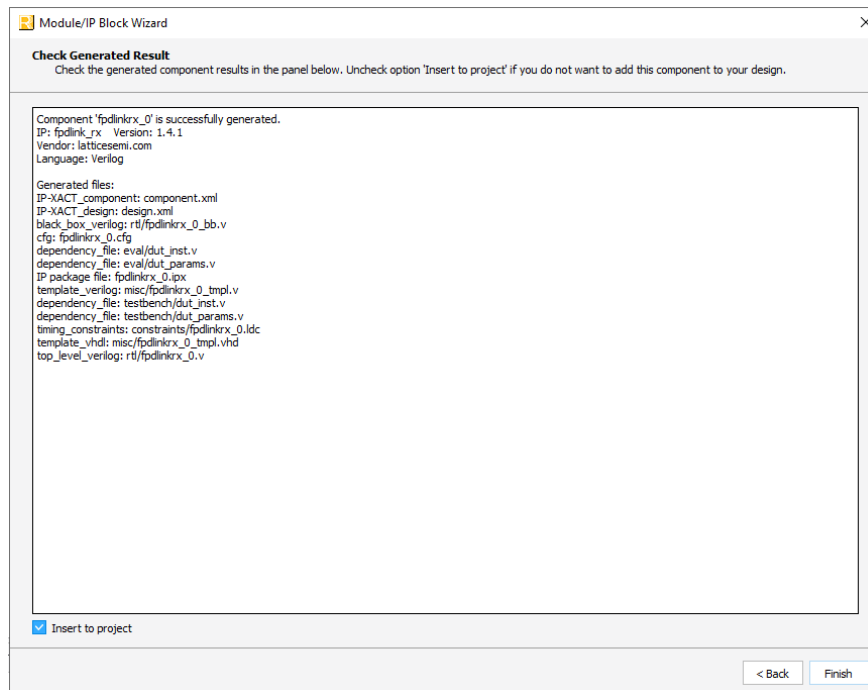

Figure 3.3. Check Generating Result
- Click **Generate**. The **Check Generating Result** dialog box opens, showing design block messages and result. See Figure 3.3.